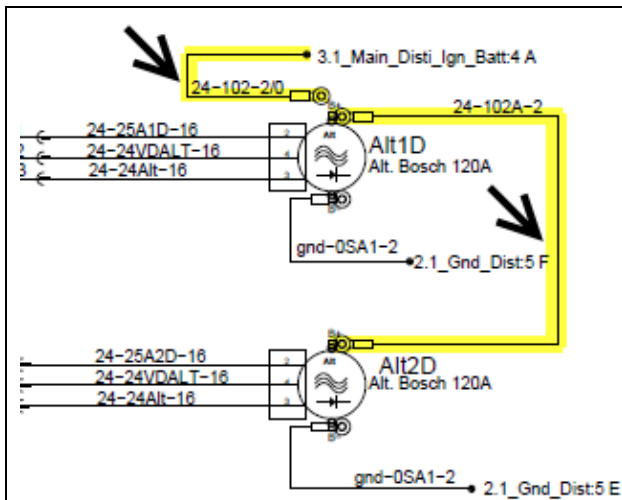

Figure 1 – R.H. SIDE ALTERNATORS (2x BOSCH)
- On the **alternators positive (+) stud terminal** and from there, up to junction block in the electrical compartment (Figure 1 to **Erreur ! Source du renvoi introuvable.5**).